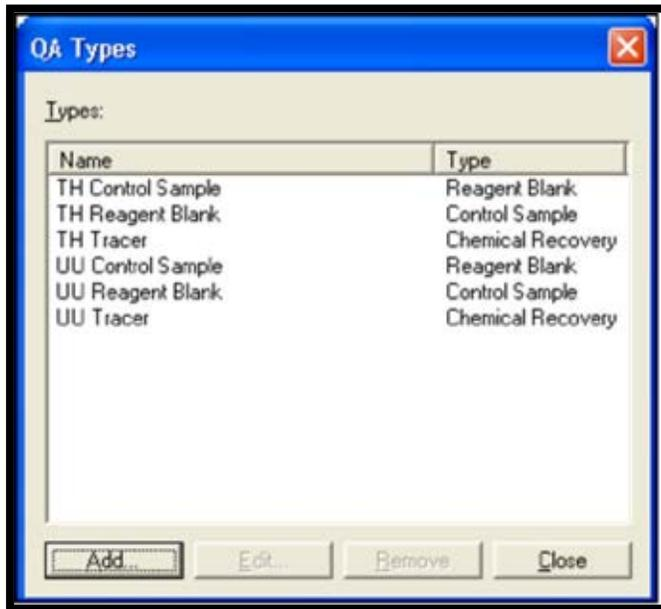
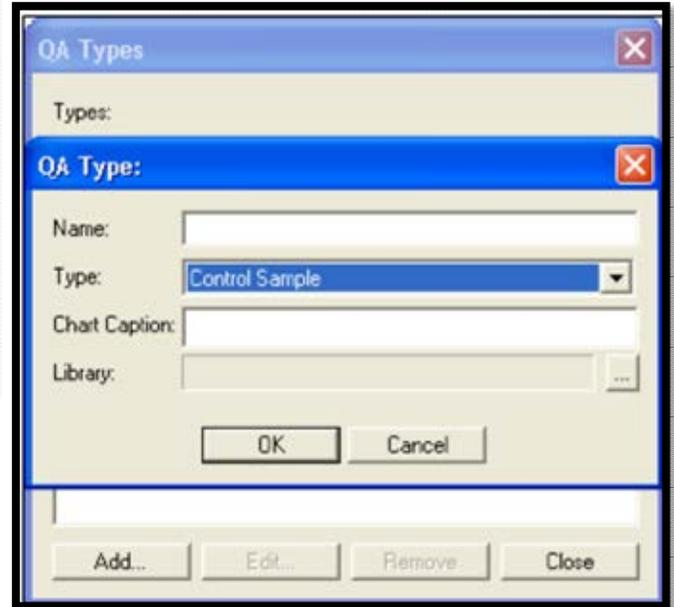

Figure 78. QA Types
Figure 79. Adding New QA Type
- 1) On the menu bar, click **Edit/QA Types...** to open the main QA Types dialog (Figure 78). Click **Add...** to open the QA Type dialog (Figure 79).